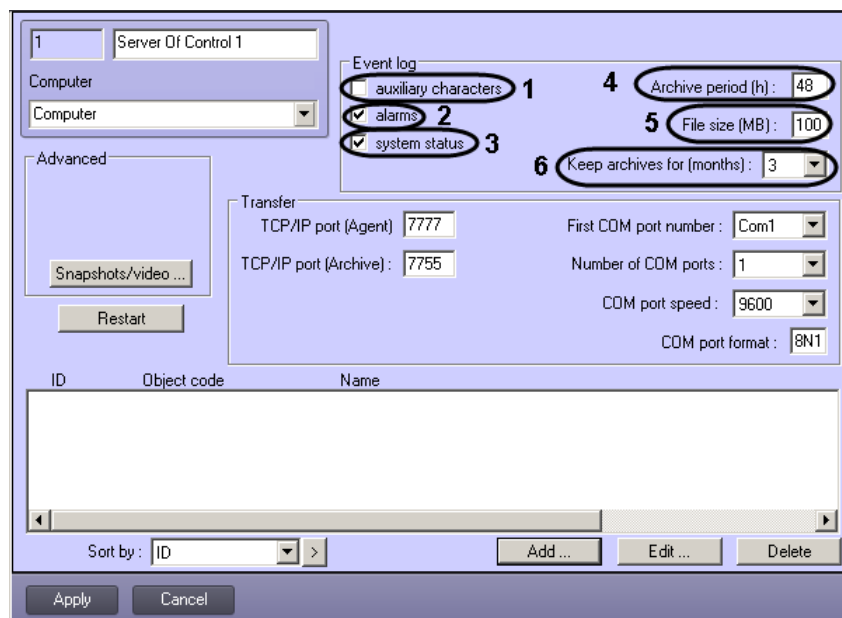

Fig. 4.3 – 1 Configuring the event log
1. Go to the configuration pane for the **Server of Control** object (Fig. 4.3 – 1).
2. To log auxiliary characters at the transport level, select the **Auxiliary characters** check box (see Fig. 4.3 – 1, 1).
3. To log alarms (activation of a vibration sensor, temperature sensor, or Door-Forced-Open (DFO) sensor), select the **Alarms** check box (see Fig. 4.3 – 1, 2).
4. To log events related to system status, select the **System status** check box (see Fig. 4.3 – 1, 3).
5. In the **Archive period (hrs.)** field, enter the frequency, in hours, at which the event log is to be archived (see Fig. 4.3 – 1, 4). Archives are saved in the DATA subfolder, with the following name format: namelog_yymmddhhmmss.gz, where
6. In the **File size (MB)** field, enter the file size threshold, in megabytes, upon which the event log is archived (see Fig. 4.3 – 1, 5). This setting overrides the value in the **Archive frequency** field.
7. In the **Keep archives for (months)** drop-down list, select the length of time, in months, for which you want to store archived event logs. This value must be between 1 and 24 (see Fig. 4.3 – 1, 6). Archives that are older than the specified number of months are deleted.